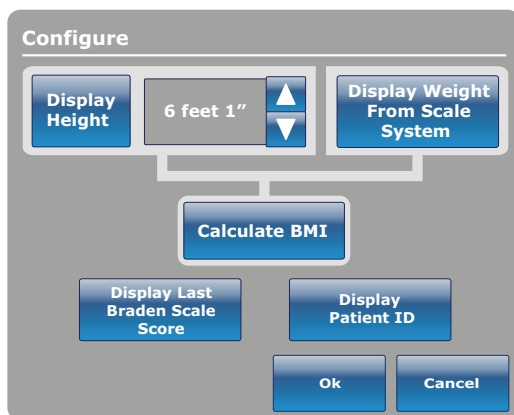

Figure 22 – Configuring private patient information
1. Tap the option in the **Configure** screen that you want to display (Figure 22).
- To increase patient height by 1 (in. or cm), tap the up arrow (Figure 22).